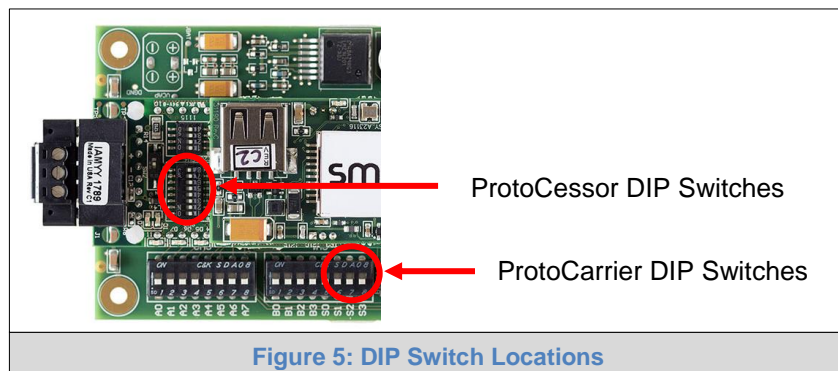

Figure 5: DIP Switch Locations
- To select configurations using the ProtoCessor DIP Switches, open the ProtoNode and find the DIP switches on the small ProtoCessor module that sits on top of the ProtoCarrier (**Figure 5**).
- The ProtoCessor A1 DIP switch is the lowest of the ProtoCessor DIP switches with A8 at the top, as oriented in **Figure 5**.